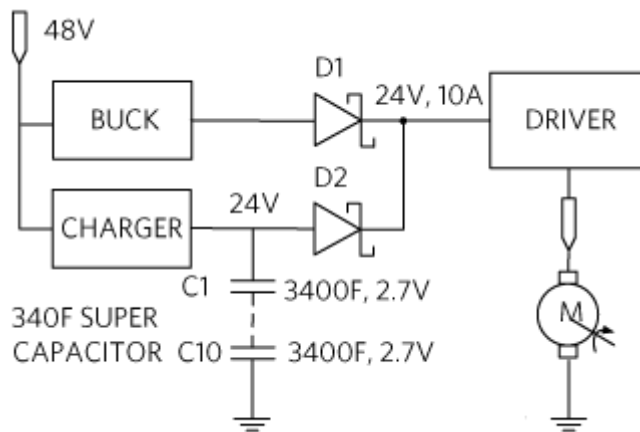

Figure 3. Supercapacitor-powered fail-safe valve actuator.
**Figure 3** illustrates the power system based on ten supercapacitors in series each rated at 3400F and 2.7V. During normal operation, a 48V bus is stepped down to 24V to power the actuator driver while also charging the 340F supercapacitor ensemble (C).